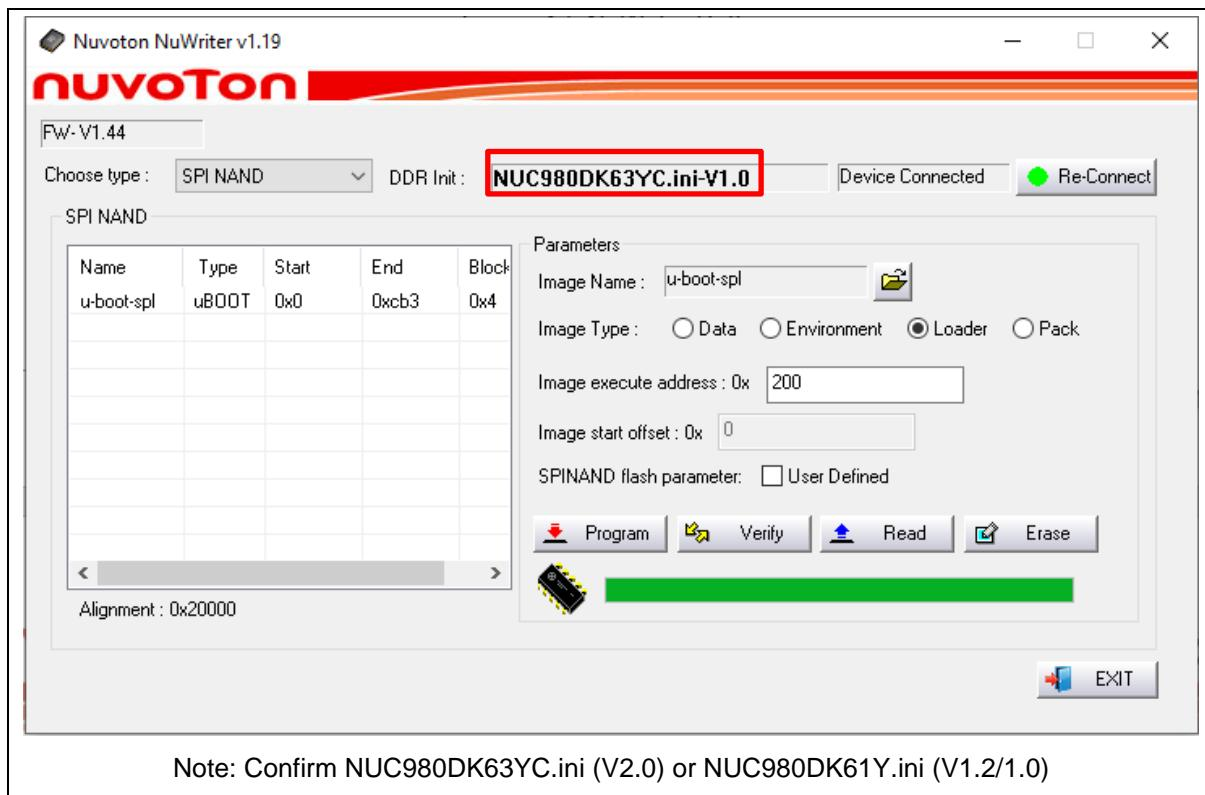

Figure 4-8 Program u-boot-spl
4. According to Figure 4-8, following the steps below to program u-boot-spl.bin: